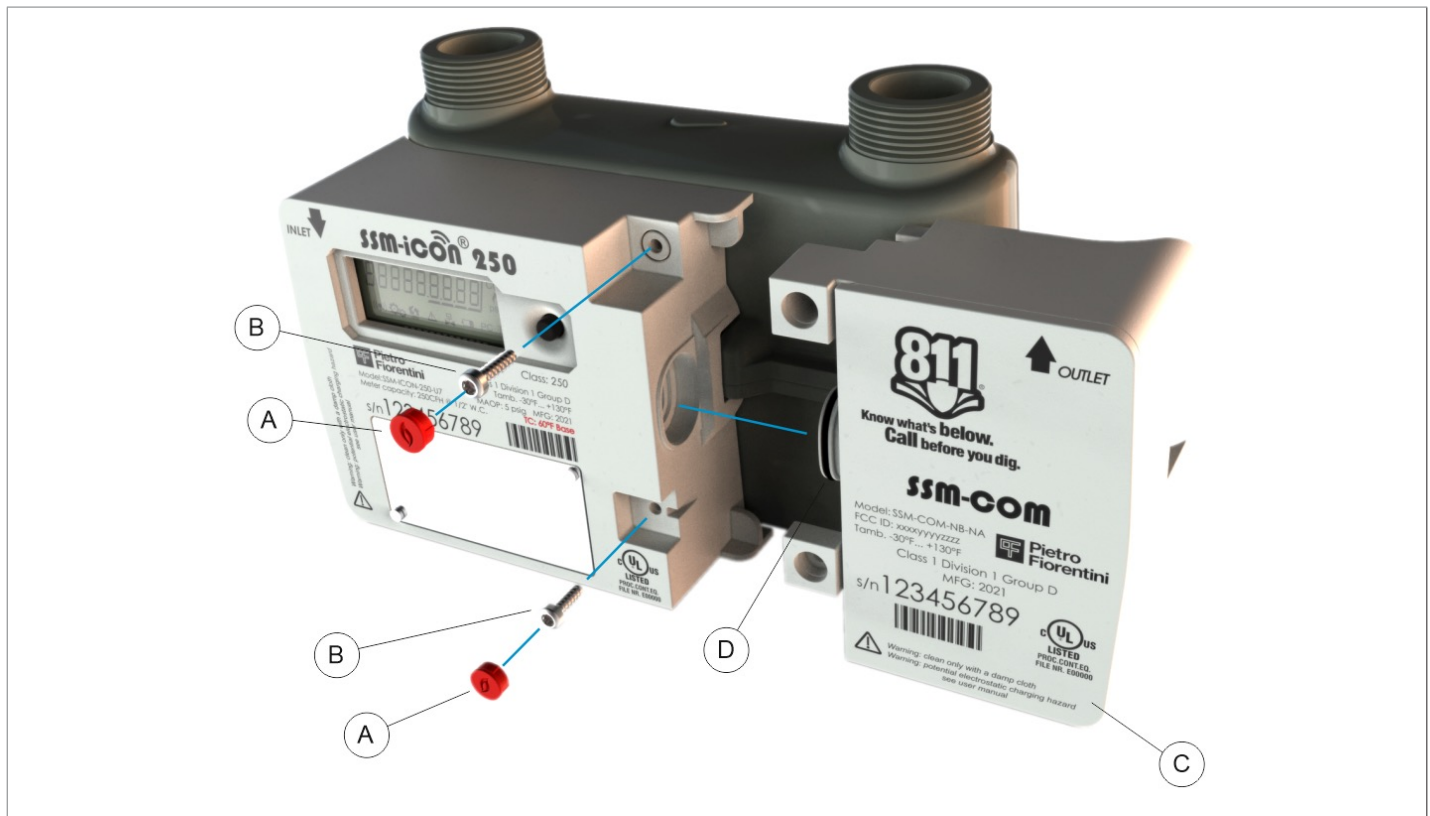

Fig. 11.5. Spare parts
- the location shown on the equipment assembly drawing (Fig. 11.5);